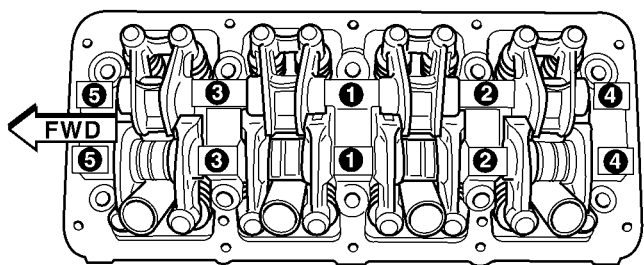

Fig. 28 Rocker Arm Shaft Tightening Sequence
(4) Verify that hydraulic lash adjuster swivel feet are still in place.
(5) Tighten bolts to 28 N·m (250 in. lbs.) in sequence shown in (Fig. 28).